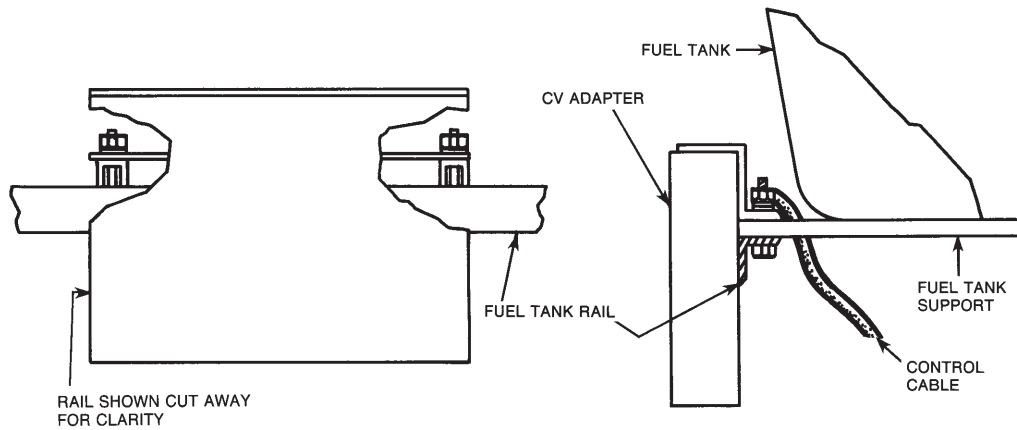

FIGURE 13 – Frame Rail Mounting.
2. Mount the K385-1 loosely in position as shown in Figure B and Figure 13 for SAE-400 (Codes 9783 and above) or loosely in position as shown in Figure A and Figure 13 for SAE-400 WELD'N AIR. It is important that the CV Adapter be positioned flush against the fuel tank rail. Take care not to pinch any leads or lines.